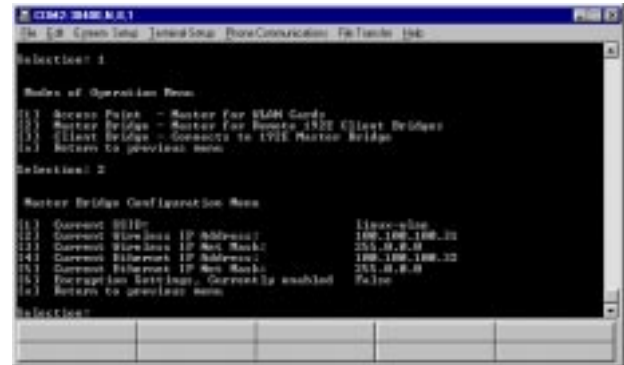

Figure 7: Master Bridge Configuration
3. Select Master Bridge (2<Enter>) to open the Master Bridge configuration menu (Figure 7).